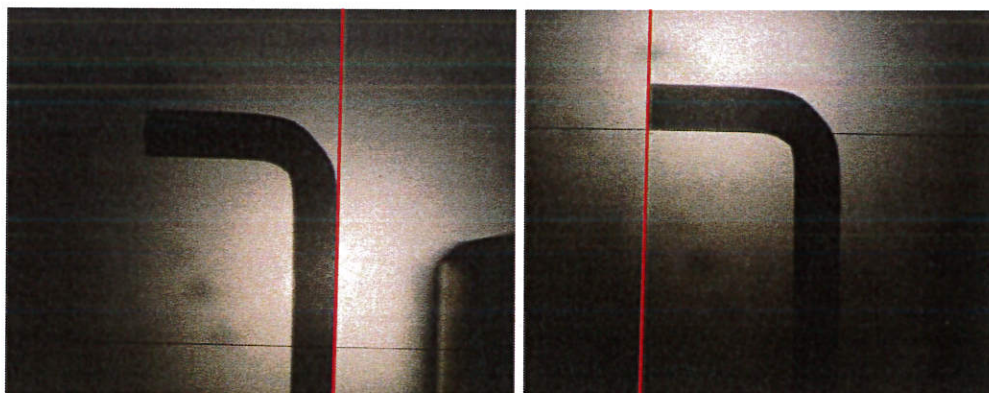

Figure 12: Measure the foot length of the Leg 2, shown with enhanced axis lines.
6.2.8. **Foot Length.** Move the X axis to outside edge of Leg 2, zero the X axis by use of the red button as shown in Figure 2: measure from the centre of the coil to of the end of Leg 2, as shown in Figure 12: Press the button to enter the value as shown in Figure 2: